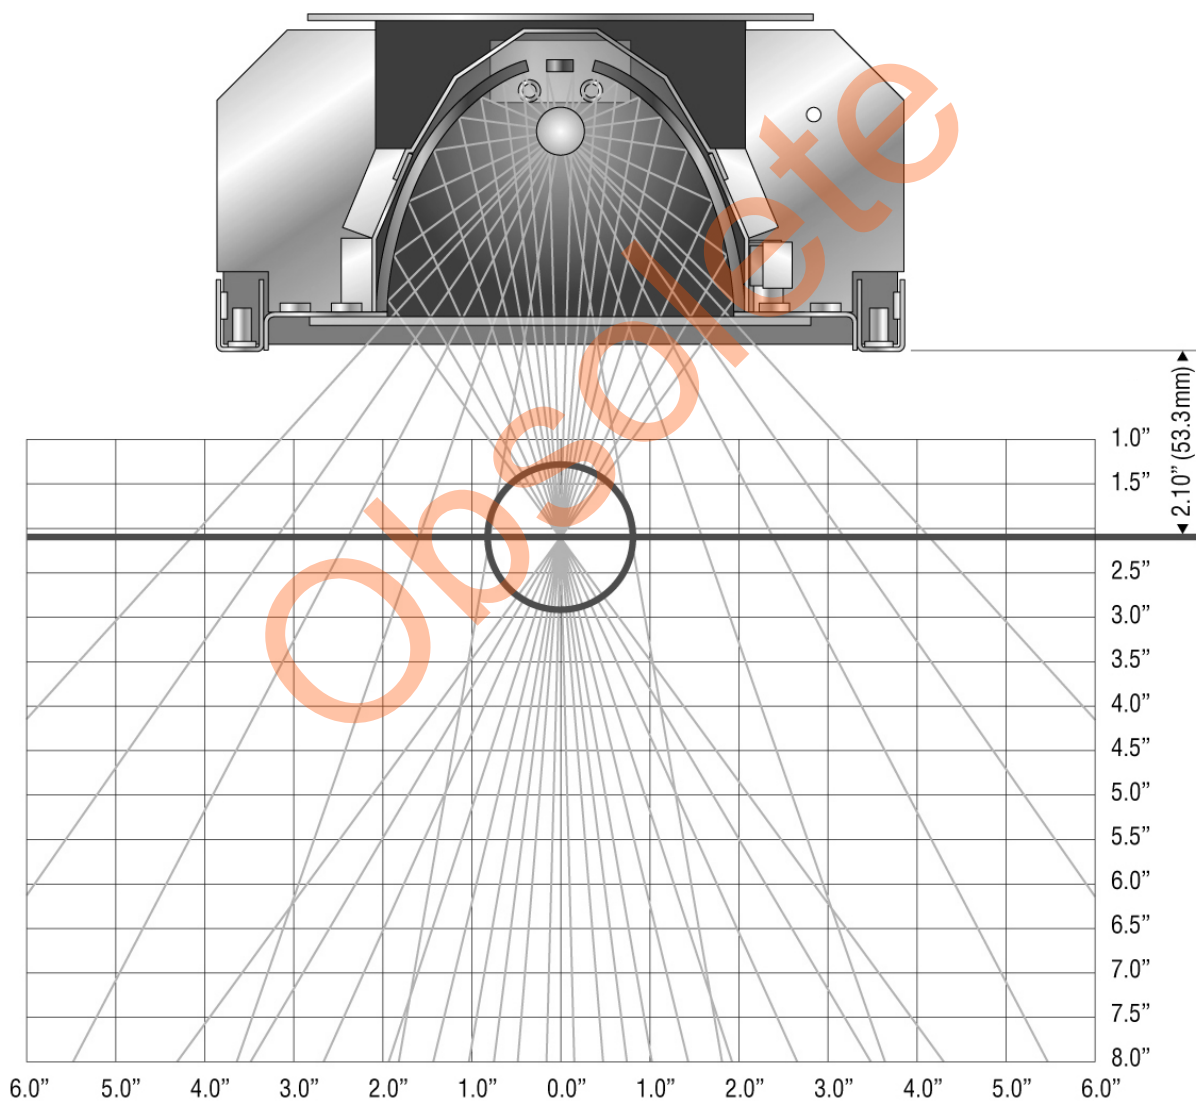

Figure 2-2 2.1 Inch Focus Reflectors
- The focus reflectors are available in 2.1 (53 mm) and 3.1 inch (79 mm) focal lengths. The focal point is measured from the bottom of the lamphead. See Figures 2-2 and 2-3.